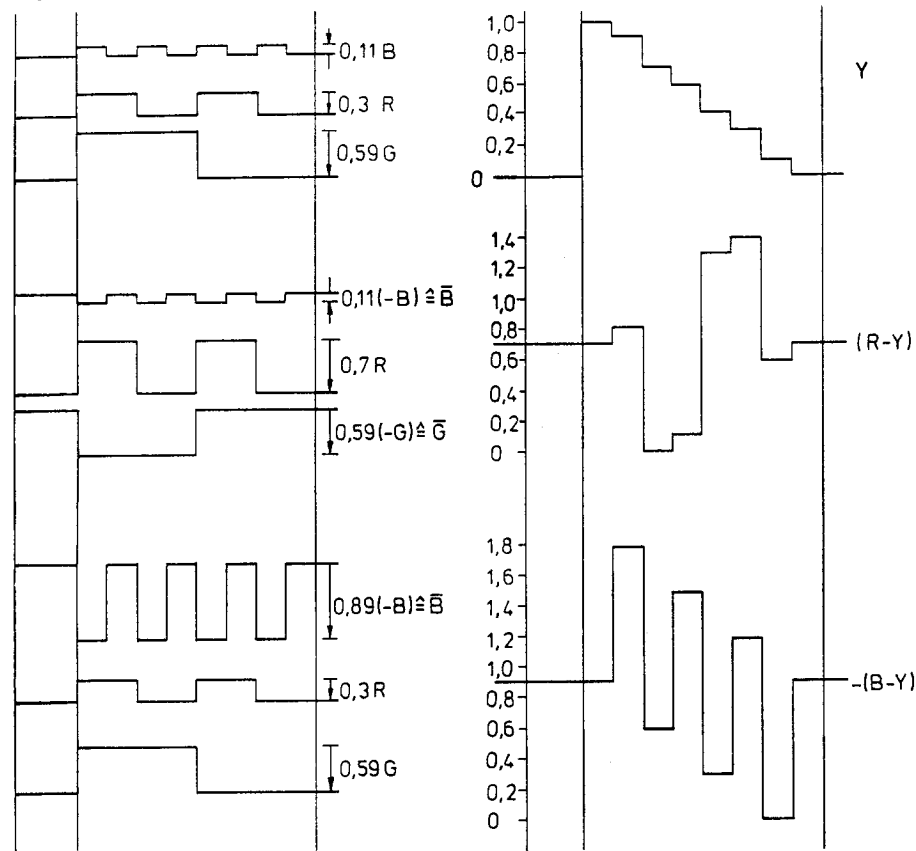

Fig. 17 Synthesis of the Y, (R-Y) and (B-Y) signals out of the RGB components
2.2.7.3. RGB signals, fig. 17
Fig. 17 shows these signals (R-Y) and -(B-Y) which are modulating the colour subcarrier.